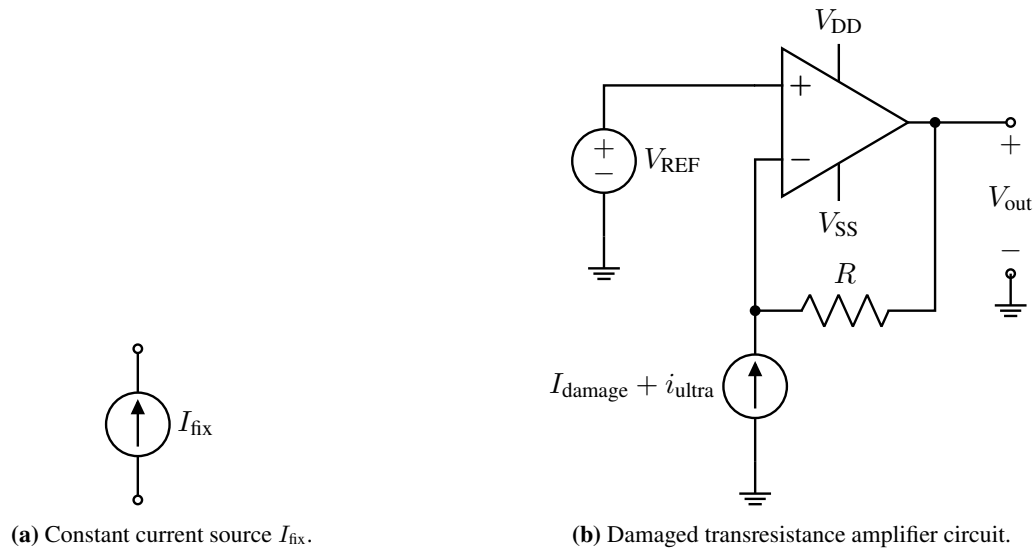

Figure 3: Circuits detailing the transresistance amplifier design, including the background signal I_{damage} .
- Unfortunately, after a few hours of successful ultrasound sensing, our sensor got damaged. It now constantly generates a huge background current, I_{damage} . So when an ultrasonic wave hits it, the sensor produces $I_{\text{damage}} + i_{\text{ultra}}$, as shown in Fig 3(b). When no ultrasonic wave hits it, the sensor produces just I_{damage} . However, the huge background current causes our output to constantly be $V_{\text{out}} = V_{\text{SS}}$, so we are not able to tell whether an ultrasonic wave is present or not.
We would like to fix this in our circuit by canceling the background current and retaining only the useful signal. For this purpose we are going to use a current source, I_{fix} , shown in Fig. 3(a), whose value we can choose. **How would you connect this current source in your circuit and what value would you pick for it?** Redraw the entire circuit with the new current source, I_{fix} , added and give the value of I_{fix} in terms of I_{damage} , i_{ultra} , R , V_{REF} . **Explain how your design works.**